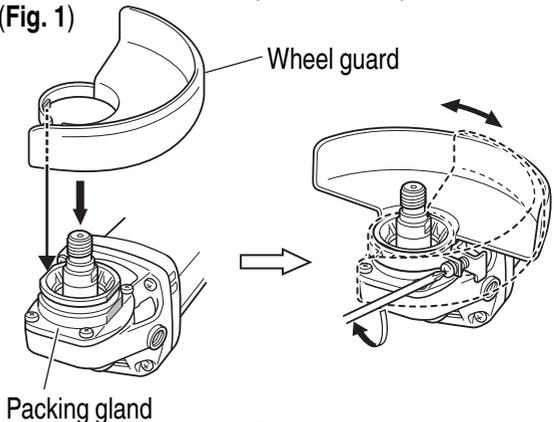

Fig. 1
4. Fitting and adjusting the wheel guard (**Fig. 1**)